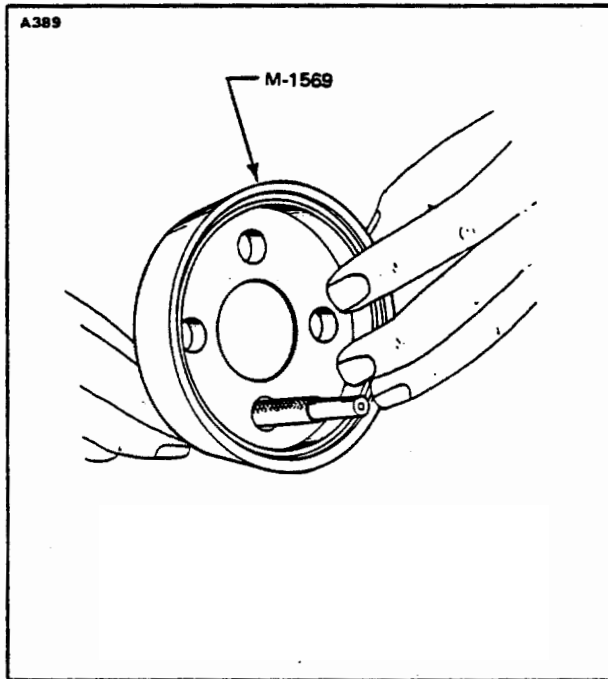

Figure 8-29. Installation in Housing
- k. For magneto end of wire, insert wire through appropriate hole in the M-1569 Plug Wire housing so the shielding is through the hole as shown in Figure 8-29.